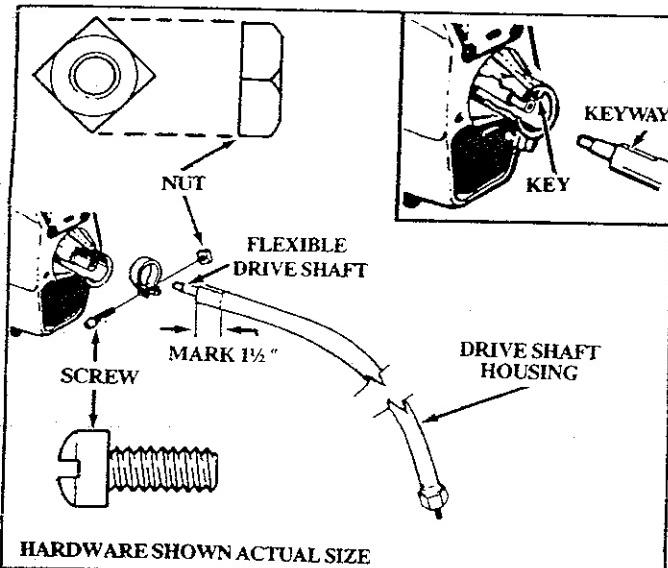

Figure 1
1. DRIVE SHAFT HOUSING — Figure 1
- b. Mark a line 1-1/2 inches from the straight end of the Drive Shaft Housing. Figure 1.
- c. Place the Clamp from the loose parts bag on the Engine Shroud as shown in Figure 1.
- f. Align the keyway in the Drive Shaft Housing with the key inside the Engine Shroud Opening. Figure 1.
NOTE: The Drive Shaft Housing must be positioned as shown in Figures 1 and 5.